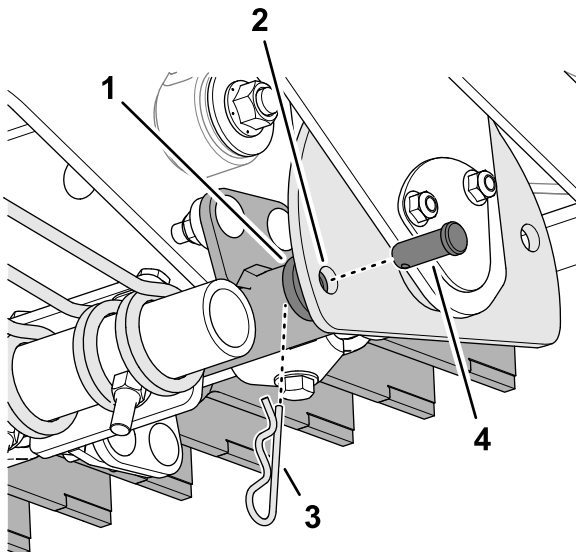

Figure 36
3. Remove the hairpin and clevis pin that secures the multi-tool arm to the angle-select plate (Figure 36).